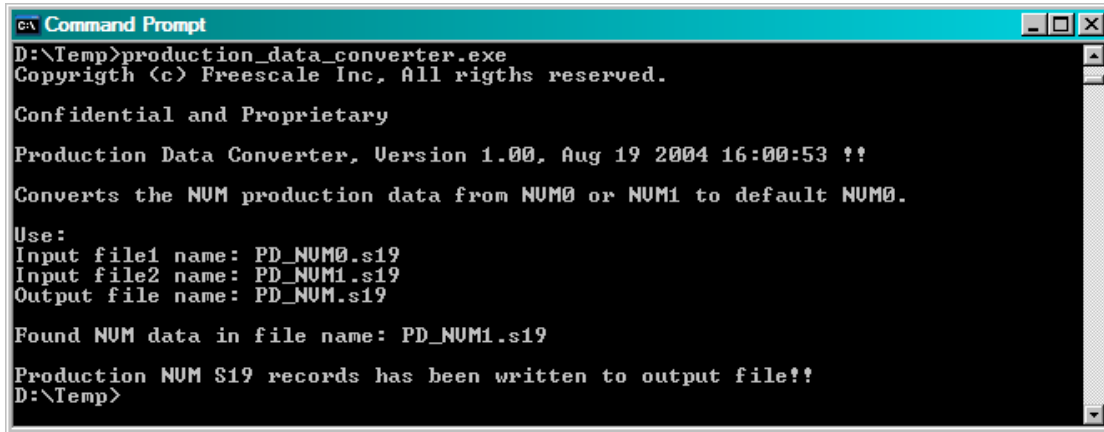

Figure 3-16. Command Window
9. Copy the `Production_Data_Converter.exe` tool to the folder containing the `PD_NVM0.s19` and `PD_NVM1.s19` files. Execute the `Production_Data_Converter.exe` file. This can be done by either clicking on the `Production_Data_Converter.exe` or opening a Command Prompt window and running the executable at the command line. The output is a `PD_NVM.s19` file containing the production data from the active NVM sector. The command line version is shown in Figure 3-16.